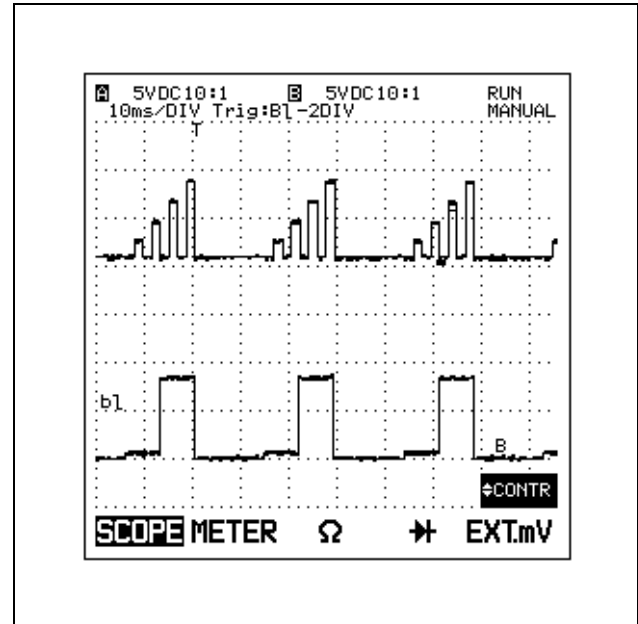

Figure 8-10 Stable Triggering on INPUT B
5. Use on INPUT B to position the B waveform at the bottom of the display (see Figure 8-10).